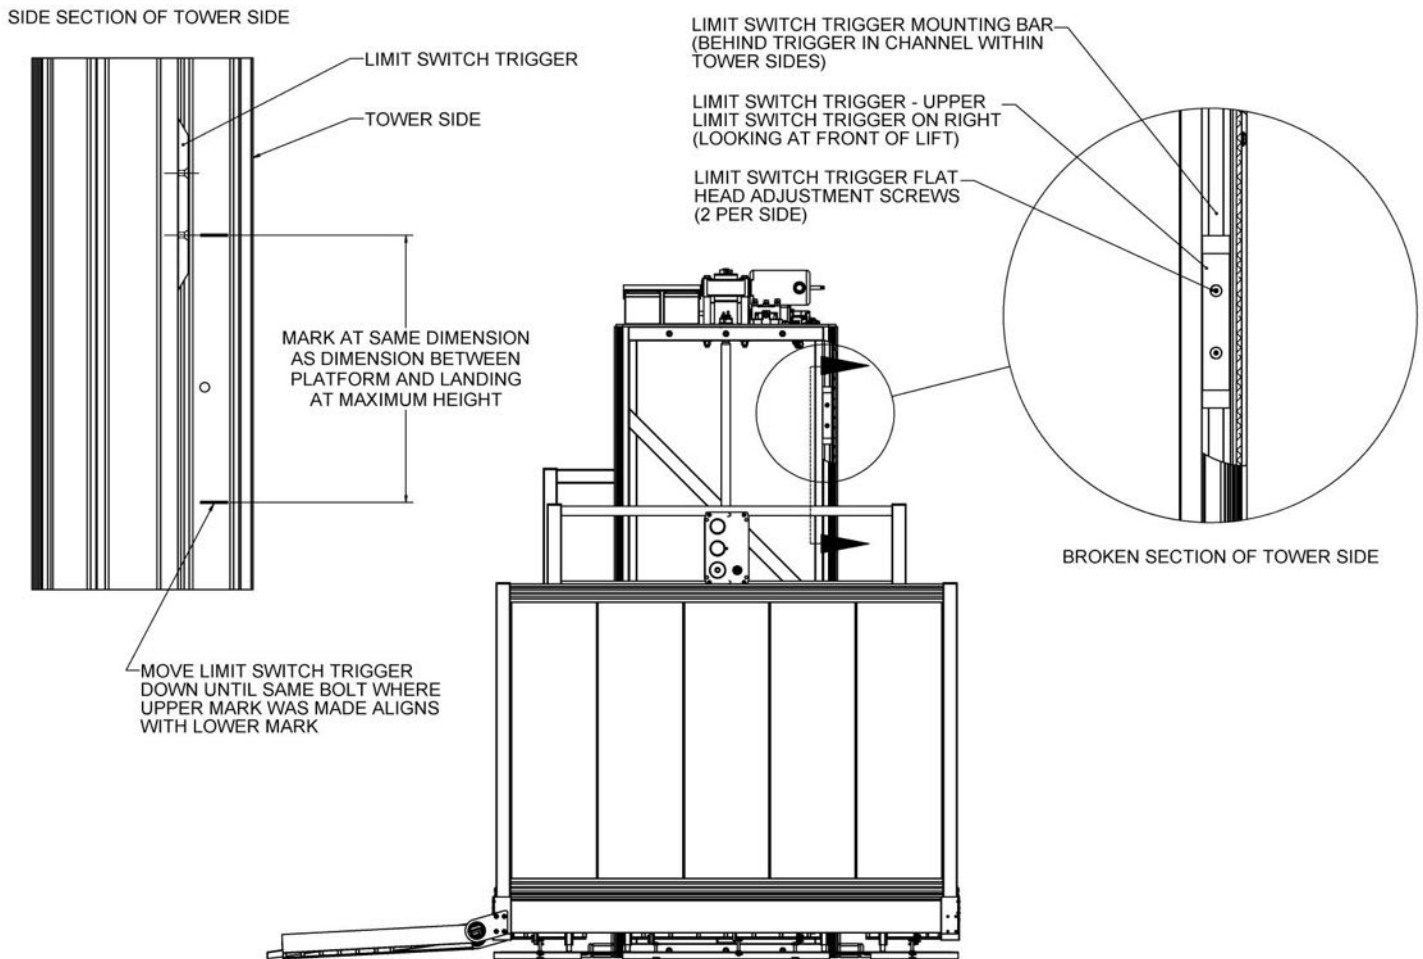

FIG. 4.16
47. Locate the limit switch trigger on the upper right inside of the tower side. Place a mark on the tower side aligned with one of the flat head adjustment screws on the limit trigger (FIG. 4.16).